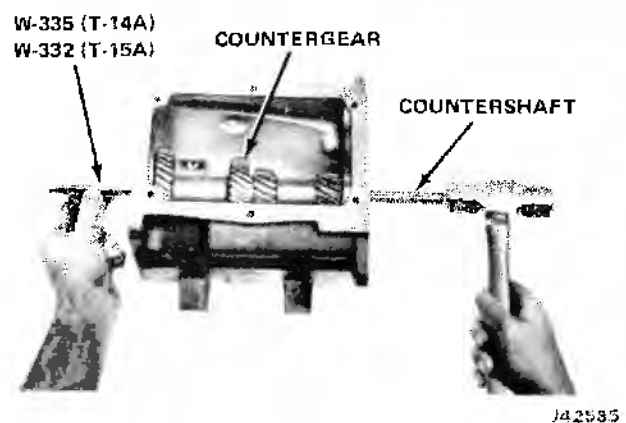

Fig. 6-8 Countershaft Removal and Installation
Tool W-332 with T-15A transmission, drive countershaft rearward, out of case, as shown in figure 6-8.
(13) Remove countershaft gear assembly and two thrust washers.
(14) Remove spacer washers, bearing rollers, and spacer from counter gear hub assembly for inspection.
(15) Using Arbor Tool W-336 with T-14A or Arbor Tool W-337 with T-15A transmission, drive reverse idler shaft rearward, out of case (fig. 6-8).